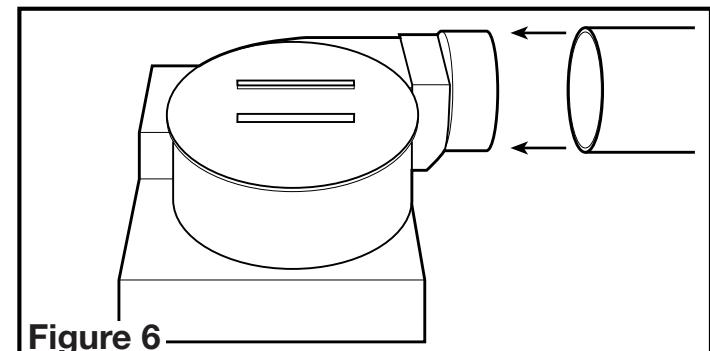

Figure 6
1. Connect the ducting to the fan's duct collar (**Figure 6**). Secure in place using tape or screw clamp. Always duct the fan to the outside through a wall or roof cap. It is recommended that low restriction termination fittings be used.